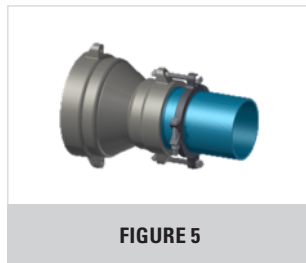

FIGURE 5
5. Connect the restrainer to fitting per Figure 5. Insert the 7" T-head bolt (bolt and 2 hex nuts provided) through the bolt flange installing a hex nut between the gland and restrainer. Tighten the hex nut up to the gland per AWWA C600 standard. Tighten the second hex nut up to the restrainer as show in Figure 5. Use additional hex nuts (not included) on the inside of the restrainer ear if joint is expected to contract.
- Connect restrainer to fitting per Figure 5. Insert the 7" T-head bolt (bolts and hex nuts provided) through the fitting ear and tighten the hex nut up to the restrainer hand tight plus a half turn. Do not over tighten T-head bolts thus forcing the spigot further into the joint.